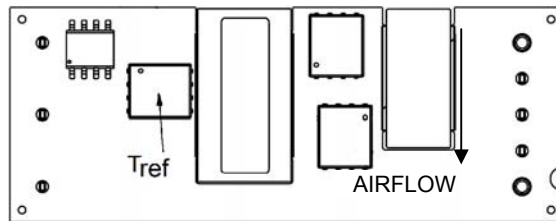

Figure 13. T_{ref} Temperature Measurement Location for Open Frame Module.
To provide protection under certain fault conditions, the unit is equipped with a thermal shutdown circuit. The unit will shutdown if the thermal reference point T_{ref} (Figure 13), exceeds 130°C (typical), but the thermal shutdown is not intended as a guarantee that the unit will survive temperatures beyond its rating. The module can be restarted by cycling the dc input power for at least one second or by toggling the remote on/off signal for at least one second. If the auto-restart option (4) is ordered, the module will automatically restart upon cool-down to a safe temperature.
The thermal reference point, T_{ref} used in the specifications for open frame modules is shown in Figure 13. For reliable operation this temperature should not exceed 114°C.